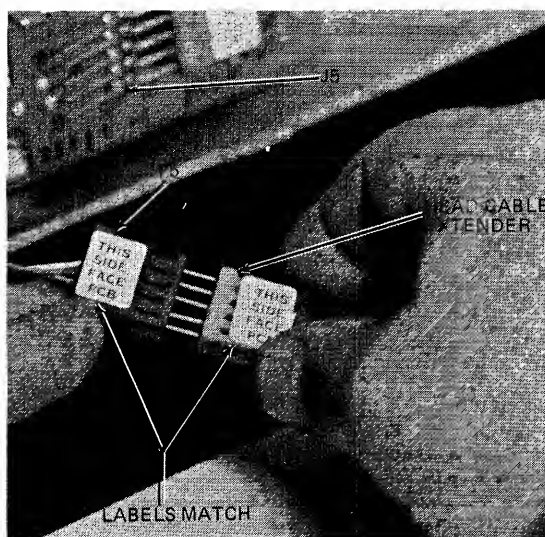

FIGURE 16 HEAD CABLE EXTENDER
- c. Attach Head Extender Cable (P/N 50466-0) to right hand drive R/W head pigtail (P-5). Insure polarity of cables are matched properly. Reference Figure 16.